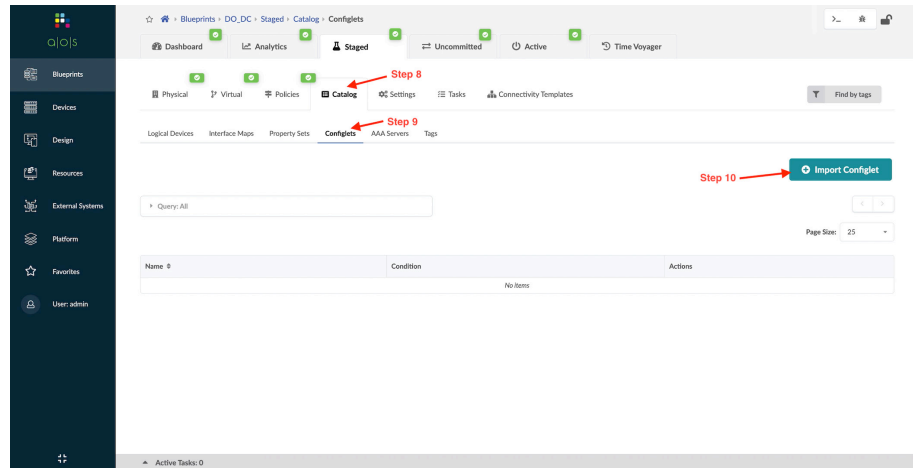

Figure 7.23 *Importing a Configlet*
Step 8: Go to Staged > Catalog. See Figure 7.23.